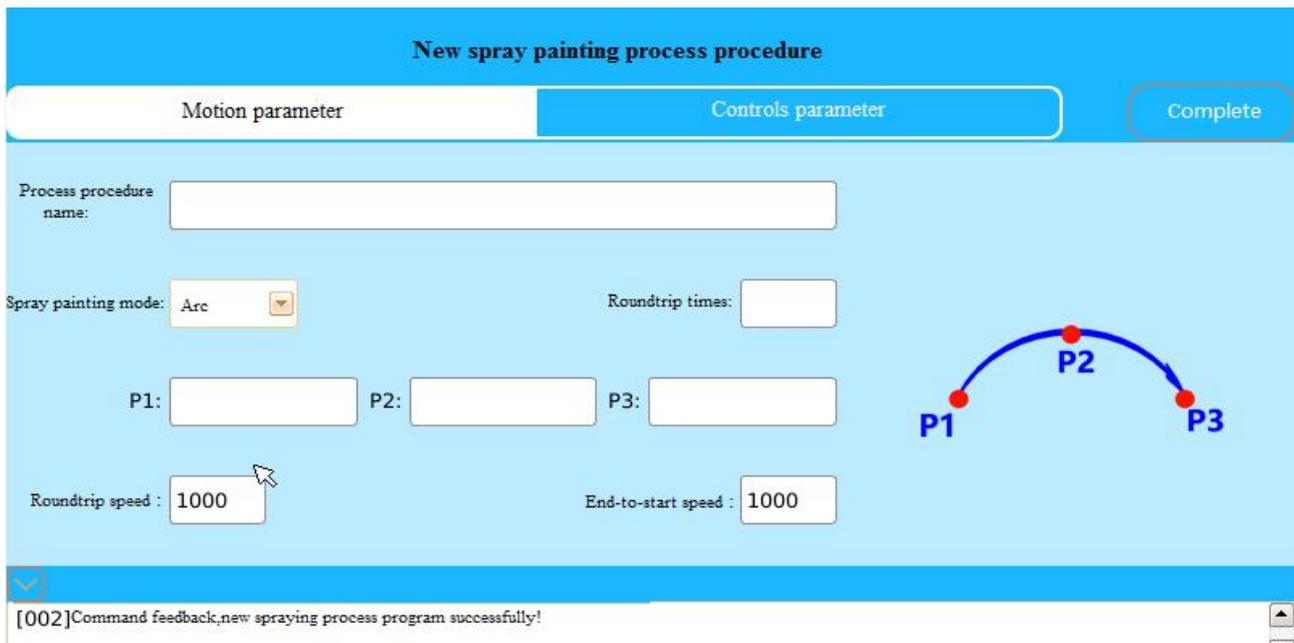

Fig. 4.19 “Common arc spray painting process” Creation Interface
(4) Moving parameters of common arc spraying mode: As shown in Fig. 4.19, it is basically consistent with the normal straight line spraying mode, except that more than one intermediate point P2 is in the circular arc motion .